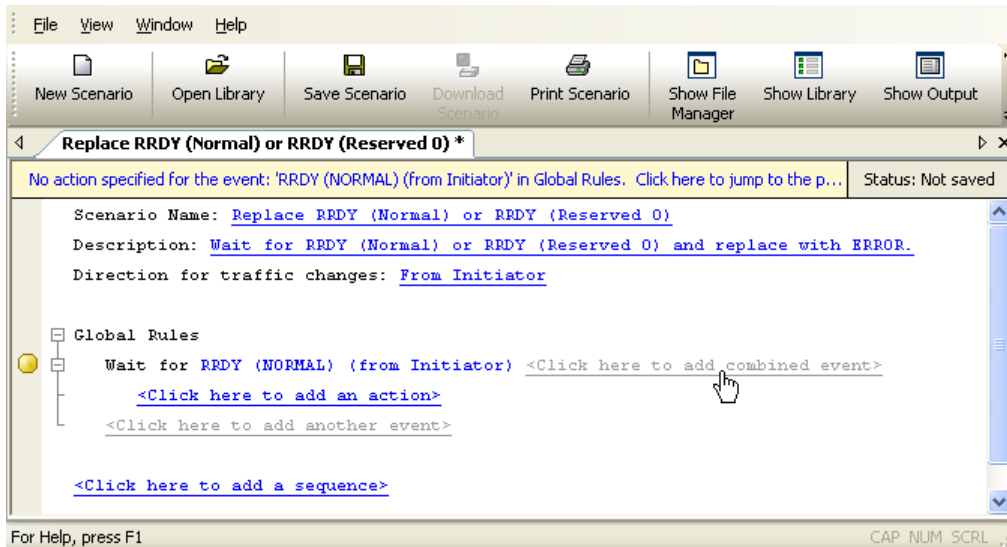

Figure 5.16 Example 3: Entering the Second Event
- Step 4** Click on the **add combined event** prompt to add a second event (Figure 5.16).